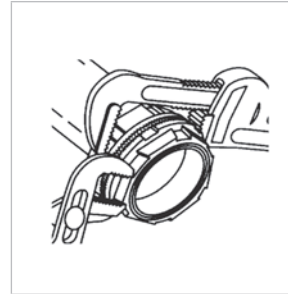

Figure 2
**2. Locknut design** with peripheral slots and a hexagonal/angled spline spaced every 30° enables easy application of torque with wrench or hammer and screwdriver. (See Figures 2 & 3)